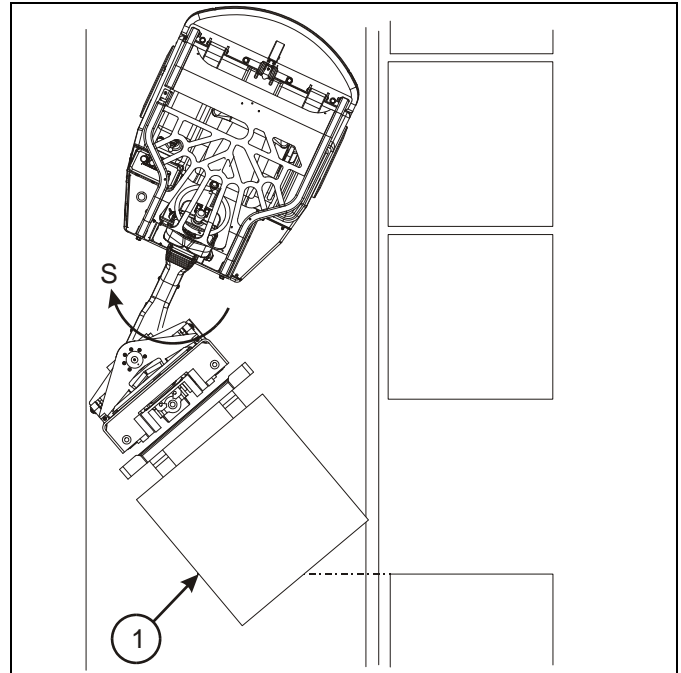

Figure 4-15: Retrieving the Load
9. Shift into reverse and slowly back away from the stack as you turn the steering wheel to keep the forks straight. See Figure 4-15.
12. When the front right hand corner of the load clears the rack, stop backing and turn the steering wheel clockwise to straighten out the forks, so they are parallel with the body of the truck. See Figures 4-15 and 4-16.